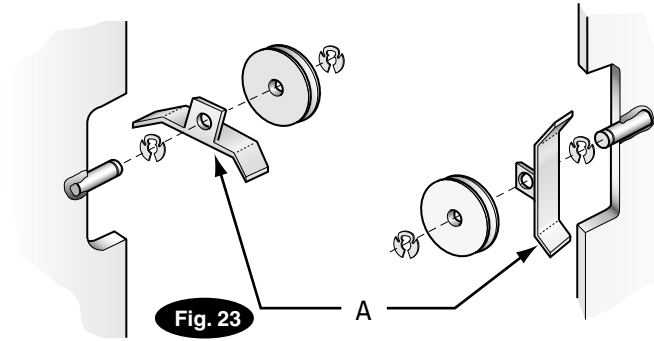

Fig. 23 Detail
- A) Install latch cable sheave, sheave covers, and retaining rings in upper slot of power unit column as shown, Fig. 23.